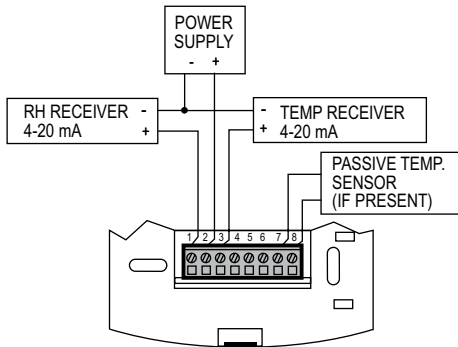

Figure 2
Use maximum 18 AWG wire for wiring to terminals. Refer to Figures 2 and 3 for wiring information.
**Current Output Selected:** Wire as shown in Figure 2. Current outputs must be powered with 10-35 VDC. If the RH output is not required, wire the negative terminal of the power supply to terminal 1 of the transmitter. All units come with 4-20 mA RH and Temperature outputs. If the 4-20 mA temperature output is not used it maybe left disconnected. If the unit has a passive temperature sensor, wire to terminals 7 and 8.